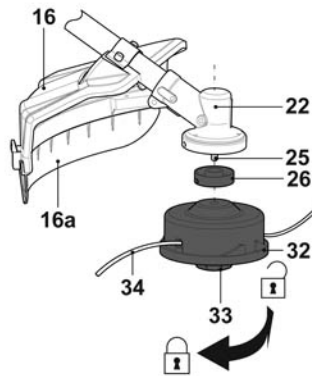

Fig. 31
- > Remove the cutting head [32] by unscrewing it anticlockwise (Fig.31).